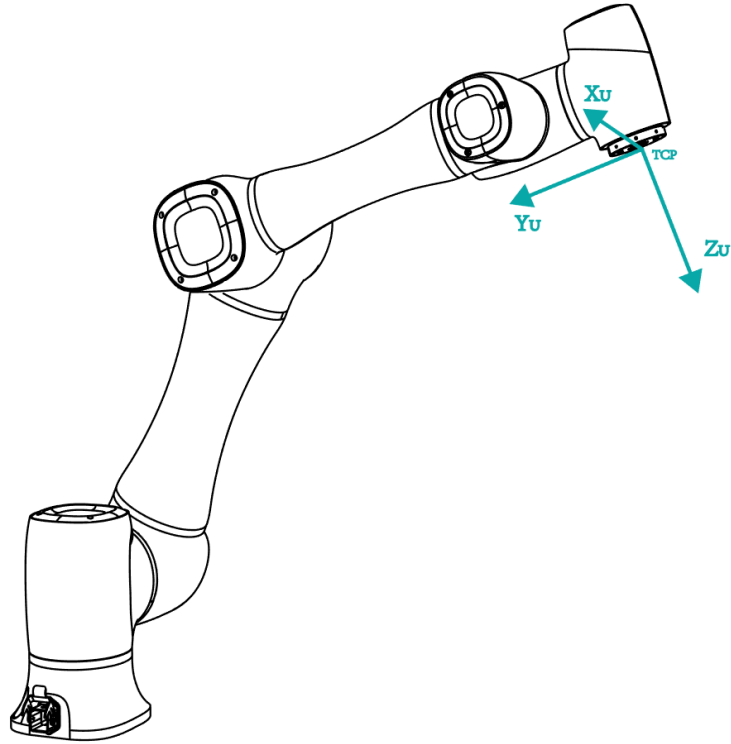

Figure 5.5 Point
- Point: move TCP to any point **A** to create origin, and create user coordinate system according to the default tool coordinate system As shown in Figure 5.5.